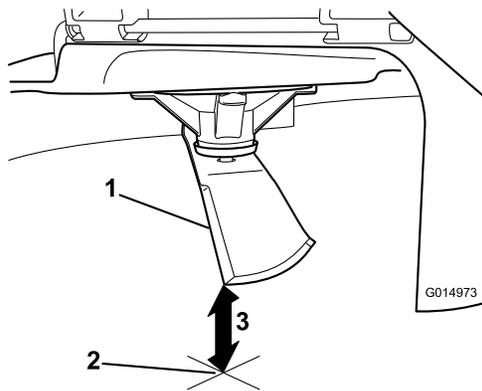

Figure 105
5. Measure from the tip of the blade to the flat surface (Figure 105).